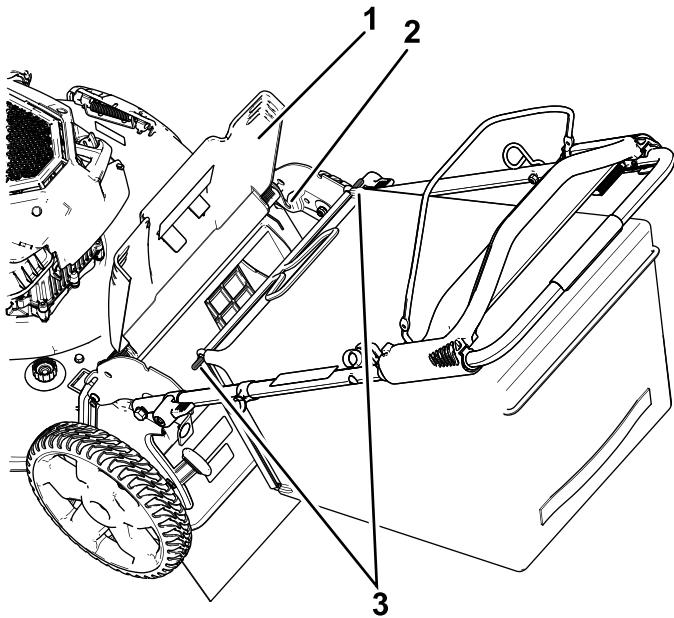

Figure 17
1. Raise and hold up the rear door (Figure 17).
2. Install the grass bag, ensuring that the pins on the bag rest in the notches on the handle (Figure 17).